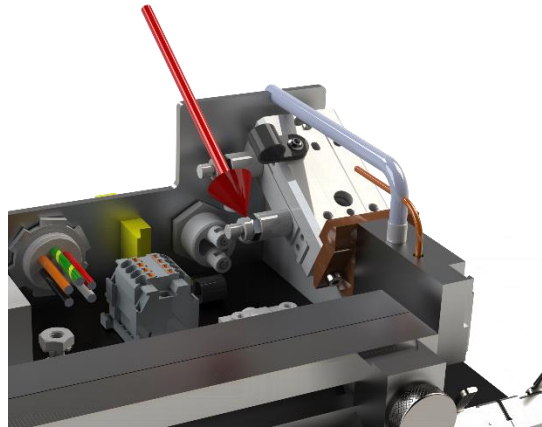

Figure 14. Flow control
- Controlled with flow control. Refer to **Figure 14. Flow control**.